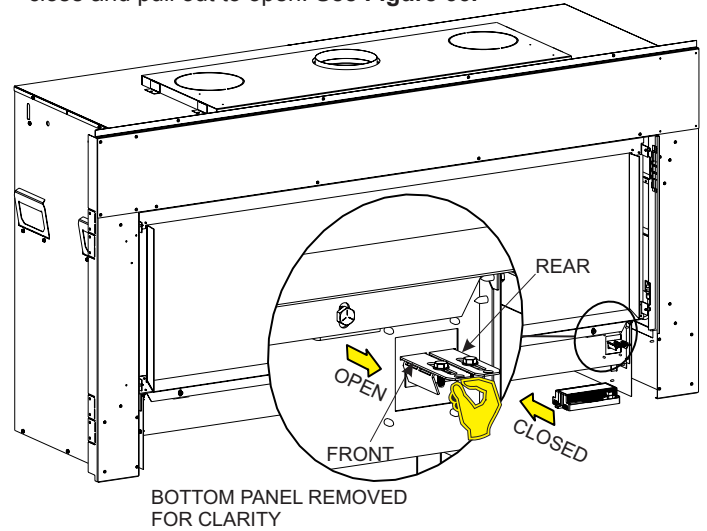

Figure 66
5. You may now adjust the air shutters. The right air shutter handle adjusts the rear air shutter and the left air shutter handle adjusts the front air shutter. Slide the air shutter handle towards unit to close and pull out to open. **See Figure 66.**